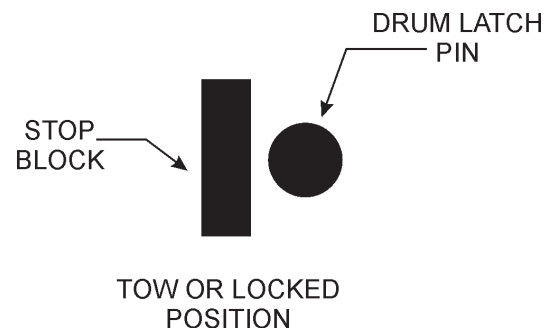

Figure 3. Drum Latch Pin (Tow or Locked Position)
**DO NOT** tow the mixer unless the mixing drum is *completely empty*. **ALWAYS** make sure the drum latch pin is fully engaged to the *right* (Figure 3) of the drum stop block. This will keep the drum from rotating.